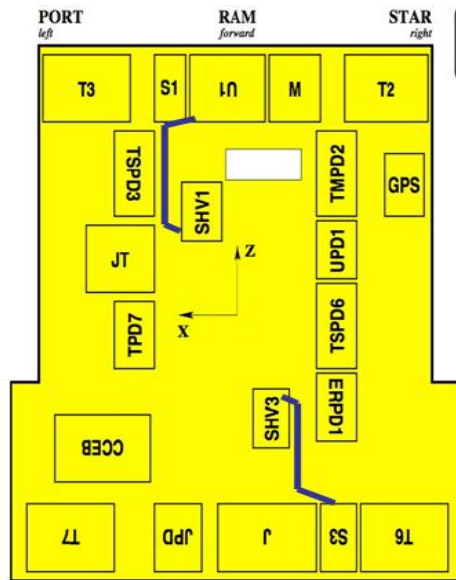

Figure 3: Routing of ACC HV cables on RAM radiator. The blue line corresponds to the 4 ACC HV cables, each.
- 7.4 Route 4 ACC HV cables according figure 3 to SHV1 brick. Form a bundle and stabilize it with surrounding flight cable ties every ten centimeters. Connect ACC HV cables as in following table and fix them by hand (no tool needed):